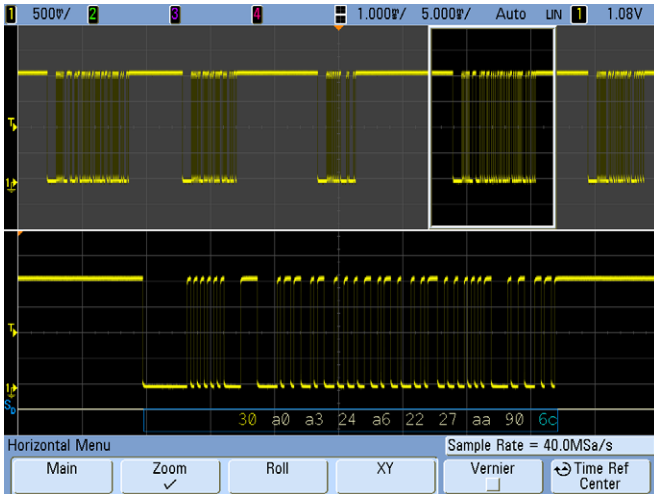

Figure 6 LIN frame ID:30h contains no errors
- 10 Press **Run** again to acquire repetitive LIN frames and then change the main time base to 5 ms/div to capture multiple LIN frames (5) on the scope’s display.
- 12 Now change the zoomed time base to 1 ms/div and then rotate the horizontal position/delay knob to display the first frame after the triggering/center frame (delay = 12.0 ms). Your scope's display should now look similar to Figure 6.